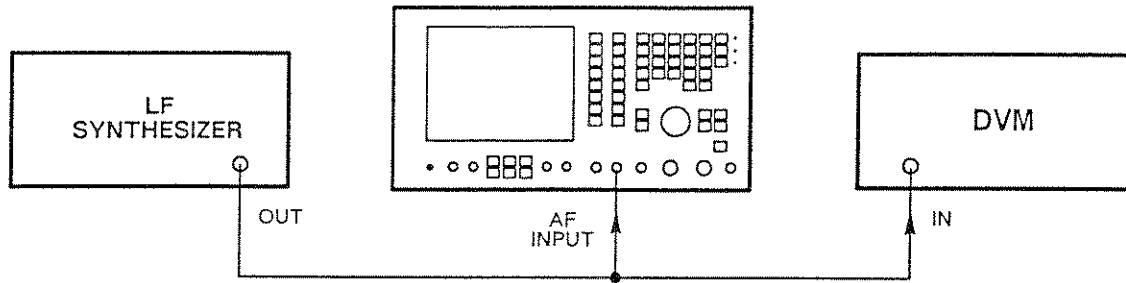

Fig. 6-11 Test equipment connections for AF frequency meter frequency and sensitivity
- (1) Connect the LF synthesizer 1 MHz standard output to the EXT STD 1 MHz socket. Connect the LF synthesizer variable output to the AF INPUT socket. See Fig. 6-11.
- (2) On the 2955B, set the MODE to AUDIO TEST, AC DC to AC, FILTER to 50 kHz LOW PASS and DIST'N to off.